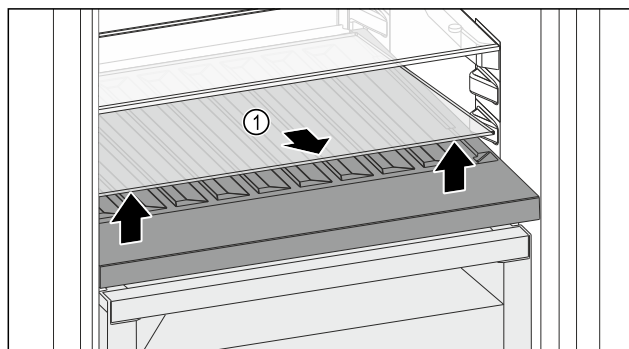

Fig. 165
- Lift the glass shelf Fig. 165 (1) at the front and remove.
- Store the glass shelf Fig. 165 (1) in a safe place outside the appliance.